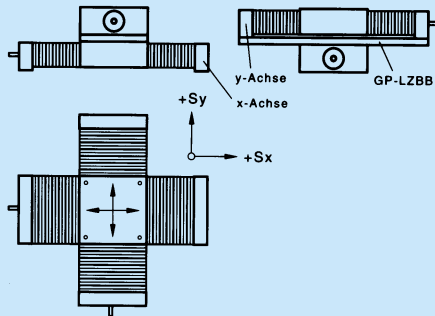

Fig. 4a
- **Assembly type KN** (Fig. 4a)
When slide units are supplied with control, unless otherwise specified, the direction of travel is marked with „+“ if the linear bearing housing in question moves away from the drive (left-hand rotation of motor), see Figs. 4a to 5b.